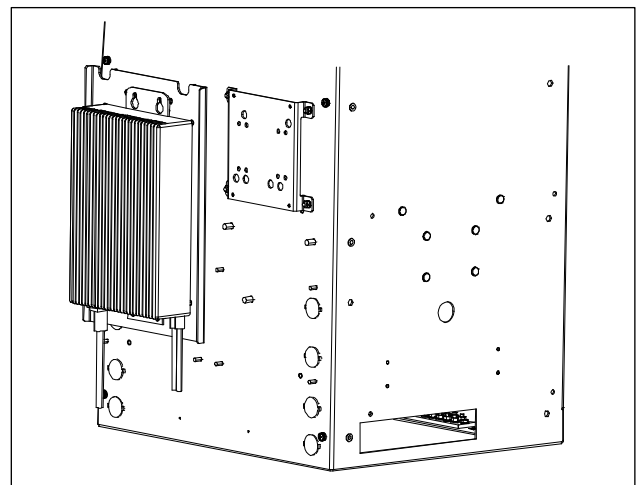

Figure 21 Power Supply
3. Mount the power supply onto the power supply bracket (Figure 21).